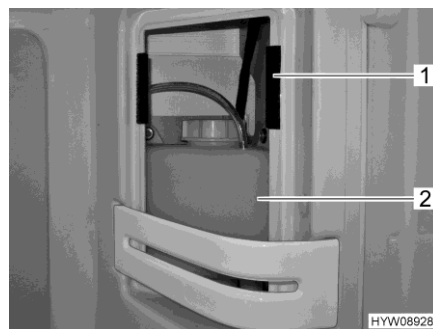

Fig. 178 Compensator reservoir (hot-water heater)
- Remove the cover of the compensator reservoir (Fig. 178,2) in the right-hand upper part of the shower. The cover is secured with Velcro (Fig. 178,1).